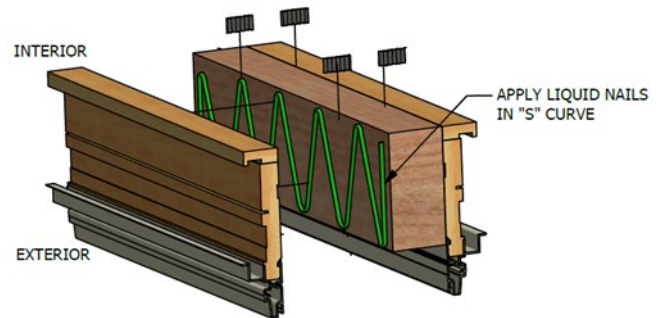

Figure 1
- B. Apply 3/16" bead of Chem X Pro between mulling material and the unit (figure 1).
- D. Apply corrugated staples 3" from ends of mull and 6"- 8" spaced down the length of the mull, securing the mull material to the unit (figure 1).